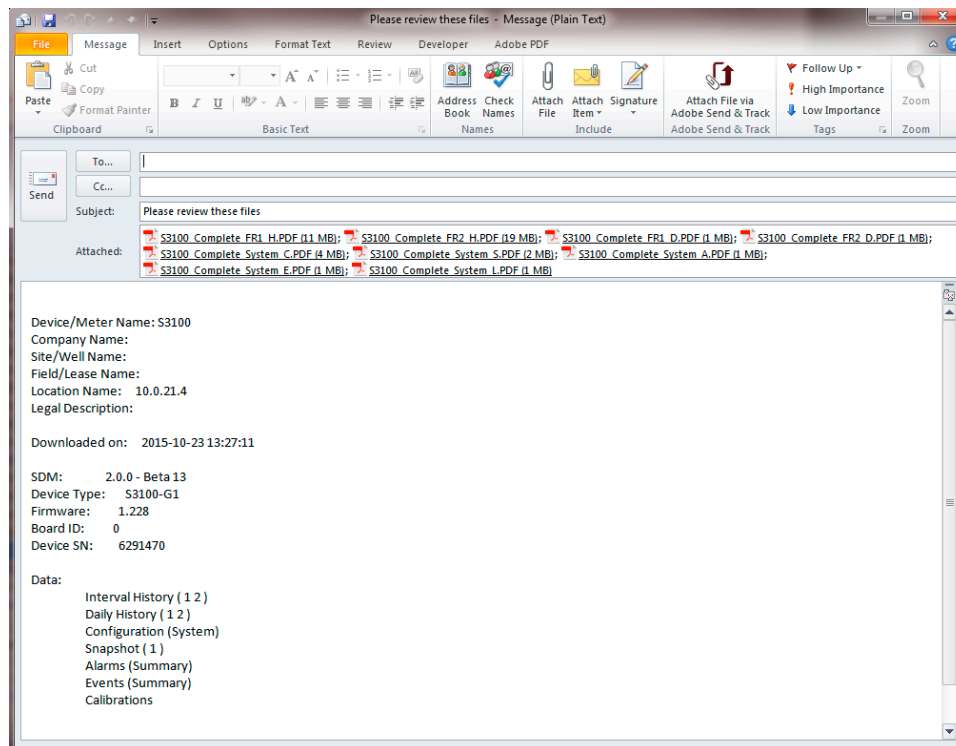

Figure 3.7—Automated email for multiple files
5. Wait momentarily while Scanner Data Manager opens an email window on your computer, attaches the export file(s), and embeds a brief description of the file(s) in the body of the email (Figure 3.7, page 37).